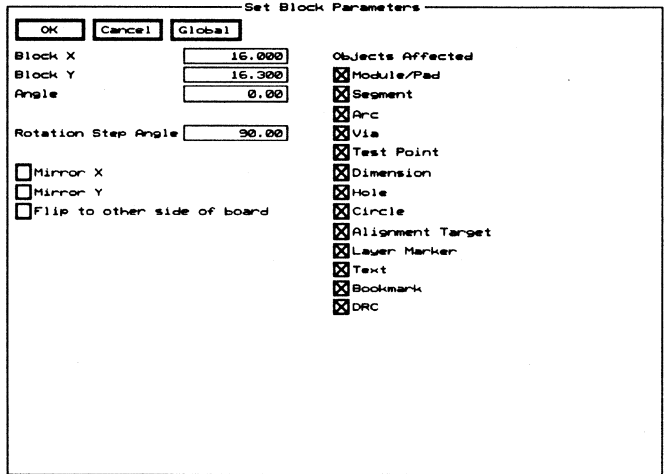

Figure 5-8. The **Set Block Parameters** dialog box.
2. Select **Set**. The **Set Block Parameters** dialog box displays (figure 5-8).